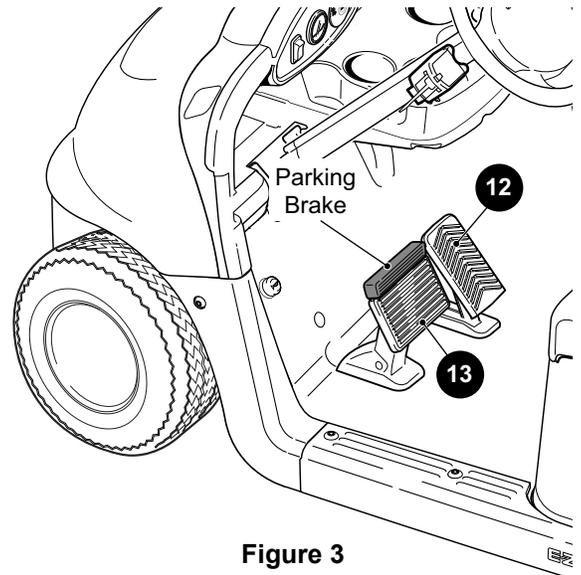

Figure 3
With the key switch in the ON position, press the accelerator pedal (12) to start the engine. When the pedal is released, the engine will stop. To stop the vehicle immediately, press the brake pedal (13) (Figure 3).
When you press the accelerator pedal (12), the parking brake will be released if it is engaged. This is a feature to assure the vehicle is not driven with the parking brake engaged. This is not the preferred method of releasing the parking brake (Figure 3).
The foot operated parking brake is the top part of the brake pedal (13). To engage the parking brake, press on the upper section of the pedal until it locks in position. Press the lower part of the brake pedal to release the parking brake (Figure 3).